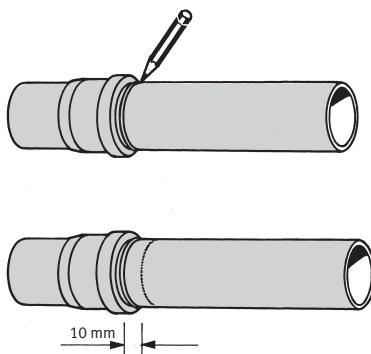

Fig. 3
- 4 Insert the pipe all the way to the end of the socket, then extract it 10 mm (*Fig. 3*)